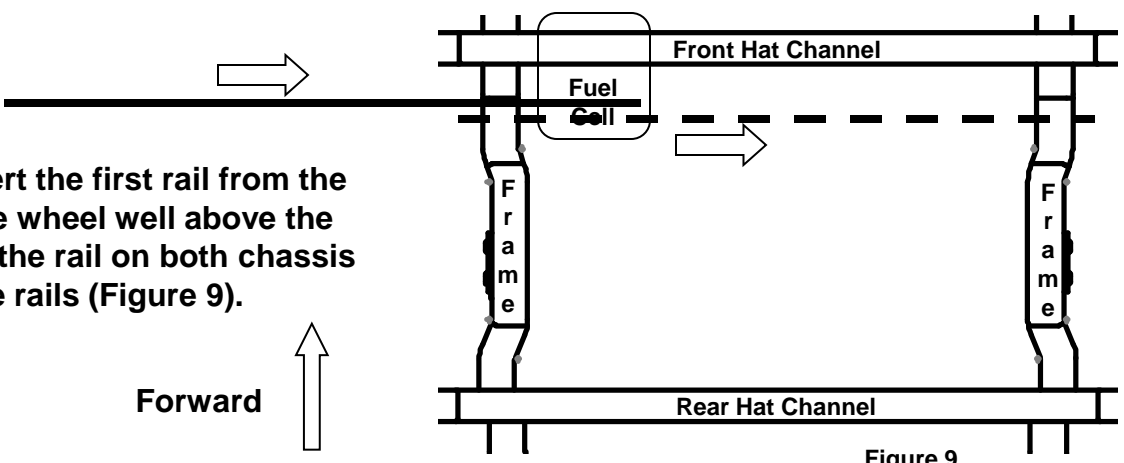

Figure 9
8. Insert rails as shown in the following steps (Figures 9 through 11). Rails should be inserted flat side up.
**Step 1 :** Insert the first rail from the drivers side wheel well above the frame. Rest the rail on both chassis frame rails (Figure 9).